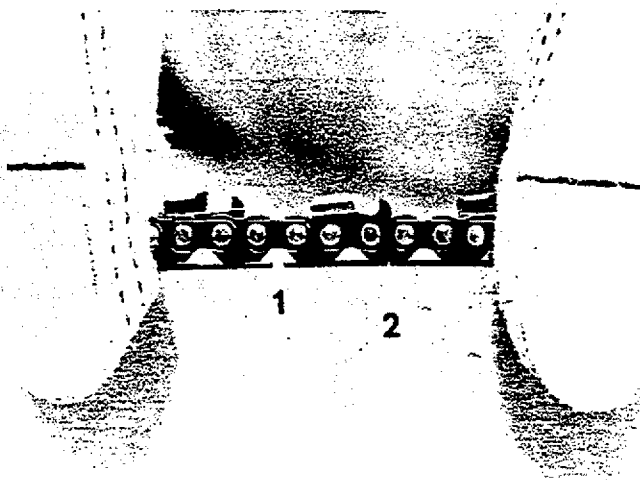

Fig. 28
7. After sharpening all teeth and setting all depth gauges, clean off the chain and re-set chain tension. Tighten chain tension until all tie straps (see no. 1, fig. 28) rest on
guide bar and, when pulled at top, the bottom of the drive links will pull up even with guide bar rail (no. 2, fig. 28). While pulling the chain around the bar, pump the oil pump button to re-lubricate the chain and at the same time, help flush fittings out of the groove in the bar. If the oil pump button becomes hard to push, check to see if the oil hole in the bar is plugged. (See Figure 3). This hole will occasionally become filled with dirt and sawdust, so check the oil hole regularly (each time chain is sharpened) to see that it is open. If it becomes plugged, remove the bar and clean out the oil passage. To equalize wear, the bar should be turned